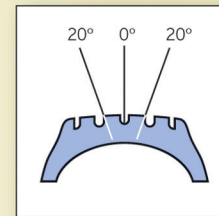

Fig. 2
- ▶ Injury angle must not exceed 20°. If so, use a 2-piece repair method (fig. 2).